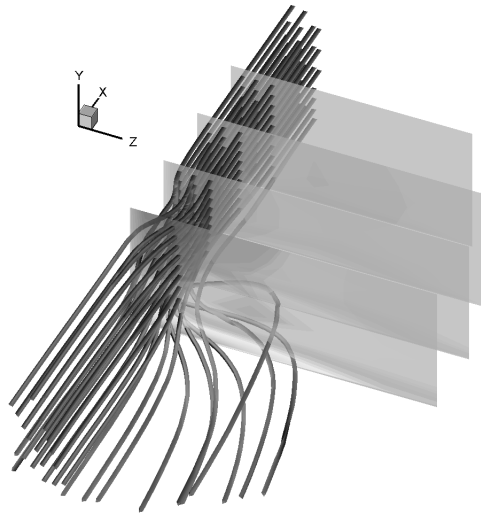

Figure 1-2. An example of interactive information discovery utilizing Tecplot's slicing abilities.
- **Slicing:** A suite of new tools allow you to interactively place and display slices for 3-D volume data sets without having to first extract them to zones. Flooded contours, shading, mesh lines, vectors and scatter symbols instantly appear on your slices. Simultaneously slice multiple planes, or sweep a slice through a volume to explore your data. The slices may be created for constant X-, Y-, Z-, I-, J-, or K-planes. An example is shown in Figure 1-2.